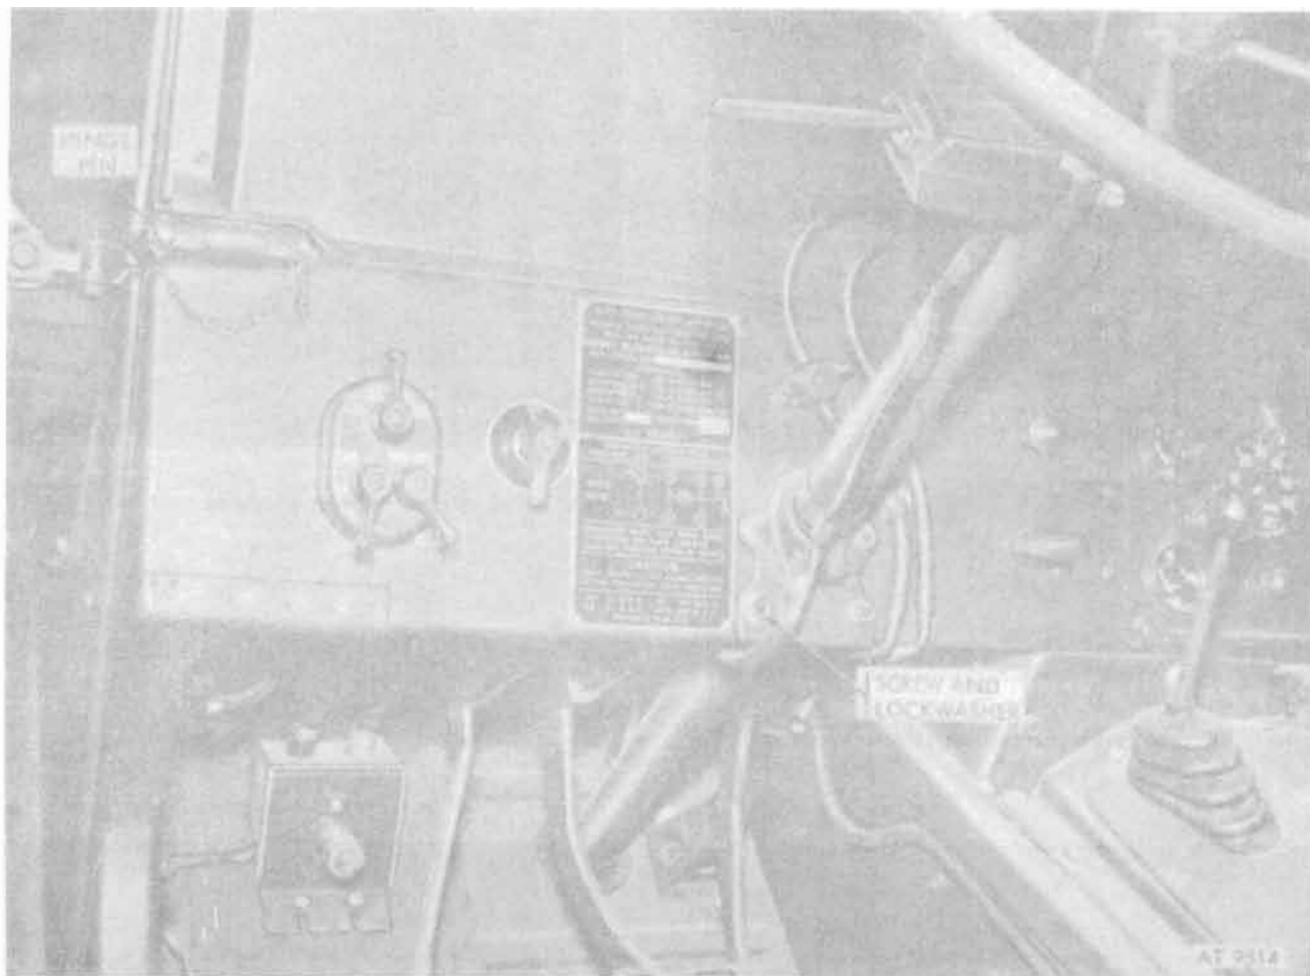

Figure 18-94. Steering column mounting bracket and hinge pin.
- Remove and discard left windshield hinge pin (fig. 18-94).
- Remove and stow screw and washer assembly from lower left steering column bracket on dash panel (fig. 18-94). Discard flat washer.